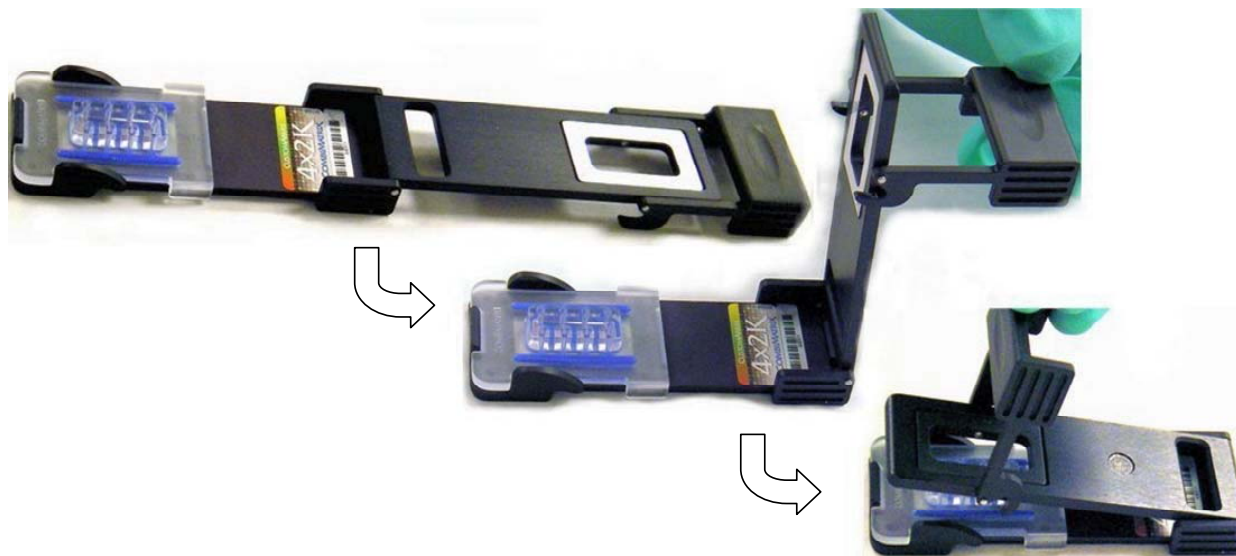

Figure 3. Placement of the Hybridization Cap on the top of the CustomArray™ 4X2K, and closing of the Hybridization Clamp.
3. Secure the CustomArray™ 4X2K and Hybridization Cap by closing the Clamp (Fig. 3).